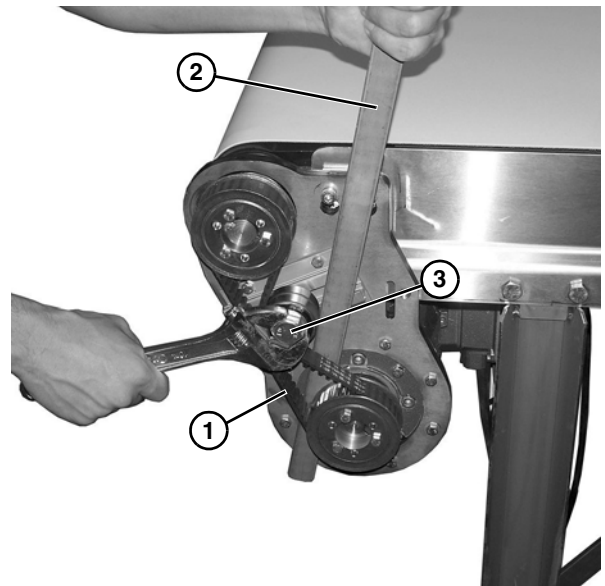

Figure 16
5. Tension timing belt (Figure 16, item 1) sufficiently to prevent belt skipping. A pry bar (Figure 16, item 2), may be used, as shown, to assist in belt tensioning.
6. Tighten tensioner screw (Figure 16, item 3) to secure position.